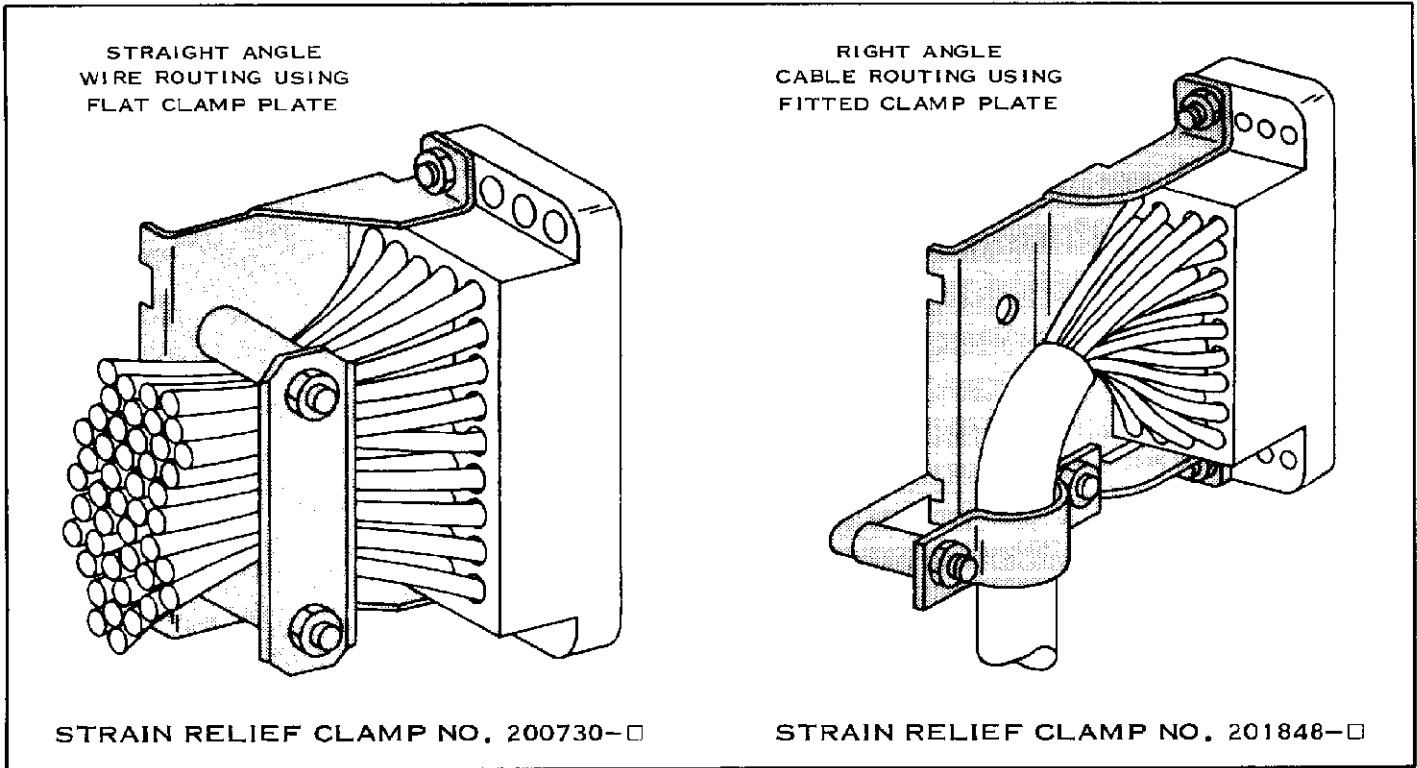

FIGURE 5
5.1. STRAIN RELIEF CLAMPS relieve the strain on Contacts caused by free-hanging wires. These clamps may be used for both straight and right angle wire routing. The Flat Clamp Plate should be used with a wire bunch and the Fitted Clamp Plate with a cable. See Figure 5. The Clamps may be used only on Female Blocks. They should be attached to the Blocks, using either guide pins and sockets or two 6-32 x 3/8" machine screws with nuts and lockwashers.